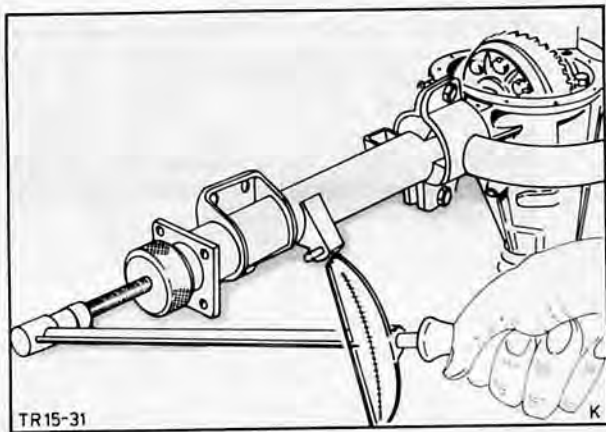

Fig. 82. Insert spindle 15-021 and tighten
33. Then insert spindle in the other axle tube and tighten to a torque of 5 Nm (0,5 mkp) again, Fig. 82.